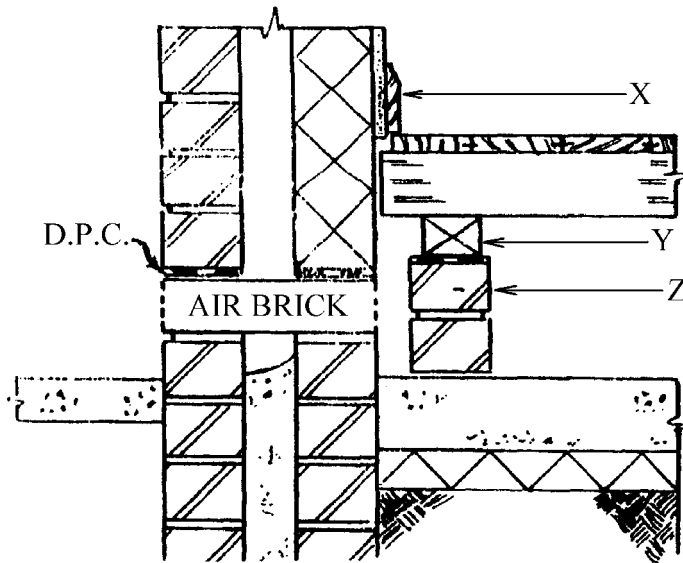

Fig. 2
5. Name the components indicated at "X", "Y" and "Z" on the vertical section through part of a hollow timber ground floor shown in Fig. 2 below.